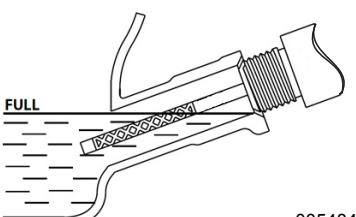

Figure 2-8. Safe Operating Range
5. To check oil level, remove funnel and insert dipstick into oil filler neck. See Figure 2-8.